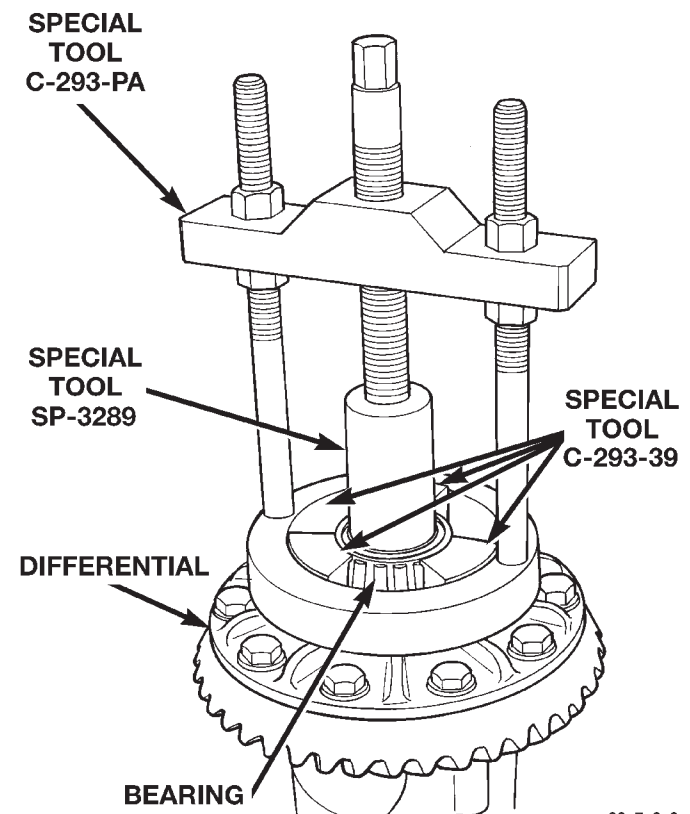

Fig. 23 Differential Bearing Removal
(1) Remove differential case from axle housing.
(2) Remove the bearings from the differential case with Puller/Press C-293-PA, C-293-39 Adapter Blocks, and Plug SP-3289 (Fig. 23).